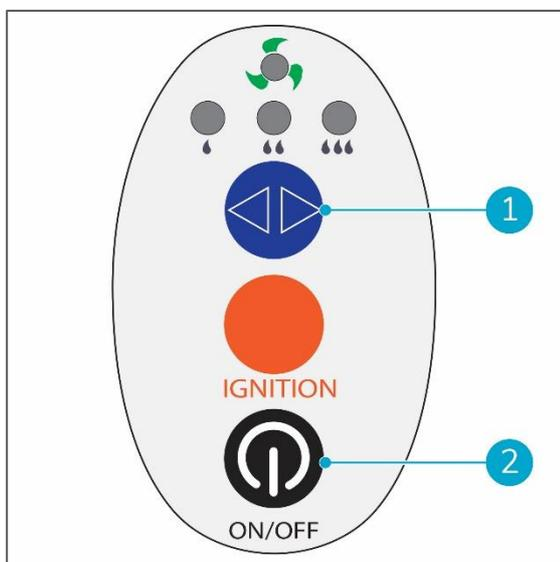

Figure 37
1. Make sure the drip tray (Figure 37, pos 2) is attached to the machine.
2. Make sure the steam lance (Figure 37, pos 1) is in the holder.
4. Press the ON/OFF button (Figure 37, pos 2) on the handle control.
5. Press the H/M/L multi function button (Figure 37, pos 1).
7. Release the H/M/L multi function button (Figure 37, pos 1).
9. Turn off the machine via the ON/OFF button (Figure 37, pos 2).
11. Clean the drip tray (Figure 37, pos 2).